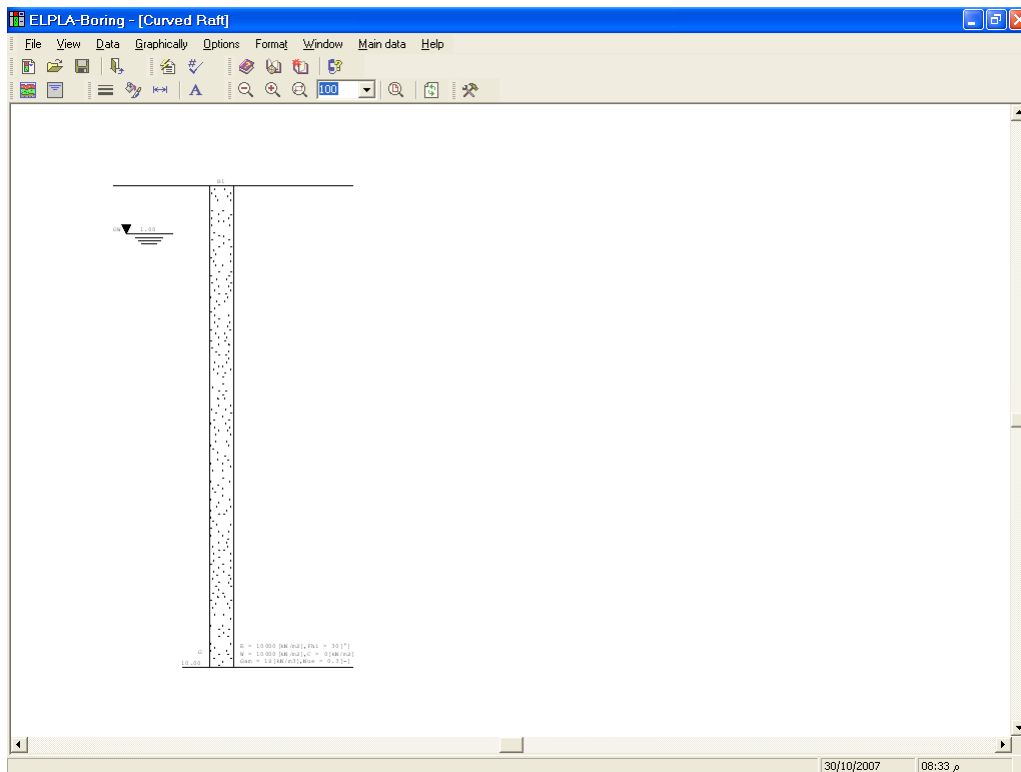
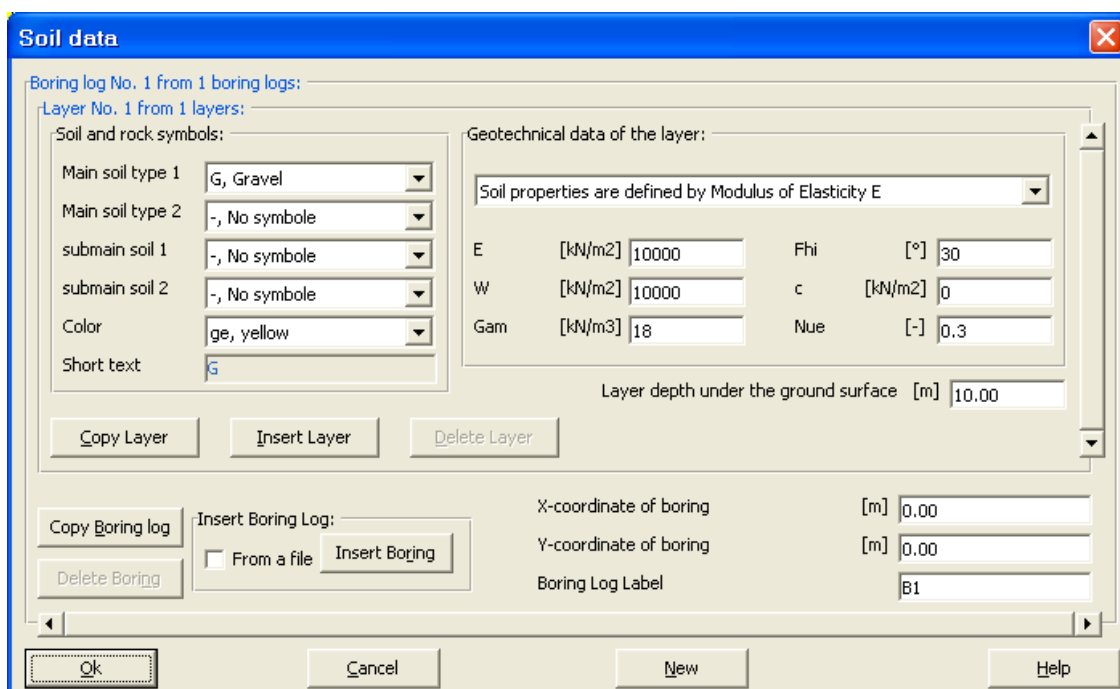
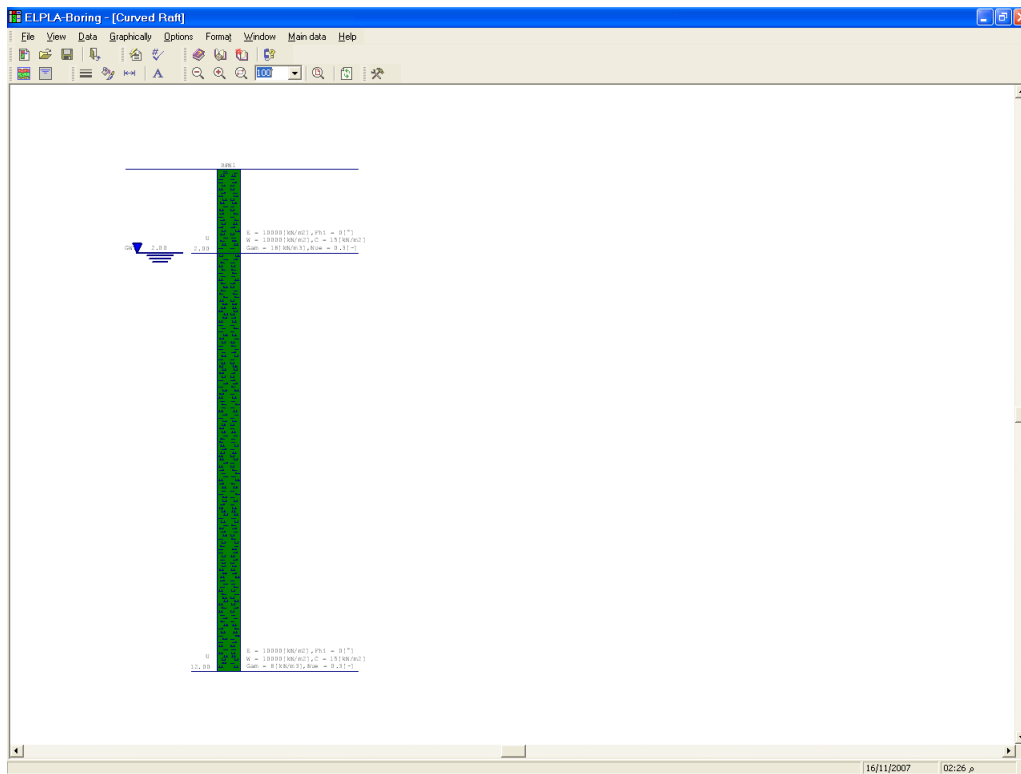

Figure 10-22 *ELPLA-Boring* sub program with a default-boring log
Figure 10-23 "Soil data" dialog box with default-boring log data
Figure 10-25 Boring log on the screen
To define the soil properties, choose "Soil properties" command from "Data" menu of *ELPLA-Data*. The following sub program in Figure 10-22 appears with a default-boring log.
- Choose "Soil data" command from "Data" menu in the window of Figure 10-22. The following dialog box in Figure 10-23 with default-boring log data appears
In the "Geotechnical data of the layer" dialog group box in Figure 10-23, define the geotechnical data of the first soil layer of the boring log as follows:
To define the soil type and color for the first layer, select "U, Silt" as the soil type in "Main soil type 1" combo box in "Soil and rock symbols" dialog group box, Figure 10-23. The color of the silt according to the German Standard DIN 4023 will be automatically created. The user can change this color. Also, a short text "U" will be automatically created for the silt.
To enter the main soil data for all layers, choose "Main soil data" command from "Data" menu in Figure 10-22. The following dialog box in Figure 10-24 appears with default main soil data. The main soil data for the current example, which are required to be defined, are the settlement reduction factor α [-] and the groundwater depth under the ground surface G_w [m]. Any other data corresponding to main soil data are not required in this example. Therefore, the user can take these data from the default soil properties.
Now all data and parameters for the boring log have been entered. After finishing the creation of the boring log, click "OK" button in "Soil data" dialog box in Figure 10-23 to see the defined boring log on the screen where the user can control or modify the input data and parameters, Figure 10-25.
- Choose "Save boring log" command from "File" menu in Figure 10-25 to save the data of the boring log
- Choose "Close boring logs" command from "File" menu in Figure 10-25 to close the *ELPLA-Boring* sub program and to return to the main window of *ELPLA-Data*